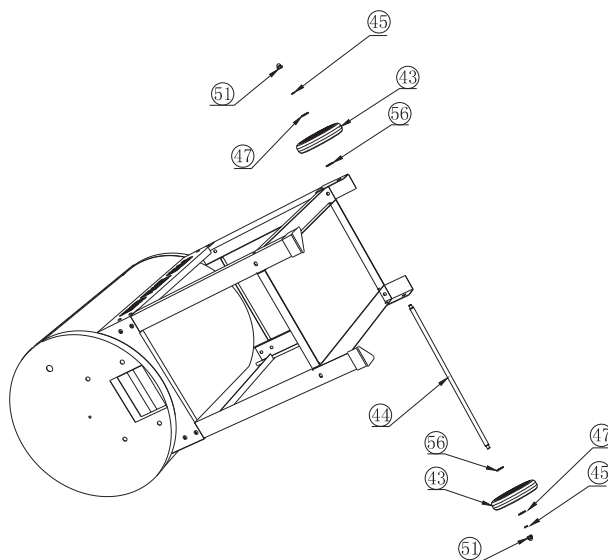

Figure 3
5. Insert the Axle (44) through the holes in the Right Rear Leg (41) TO Right Front Leg (42). As shown in Figure 3.
6. Place a Gasket (56) on one side of the Axle (44) and then place a Wheel (43) on the Axle (44) followed by Gasket (47), Spring Washer (45), and Gap Nut (51). As shown in Figure 3.
7. Repeat this step for the other side of the Axle (44). As shown in Figure 3.
8. Use the Wrench (55) to tighten.